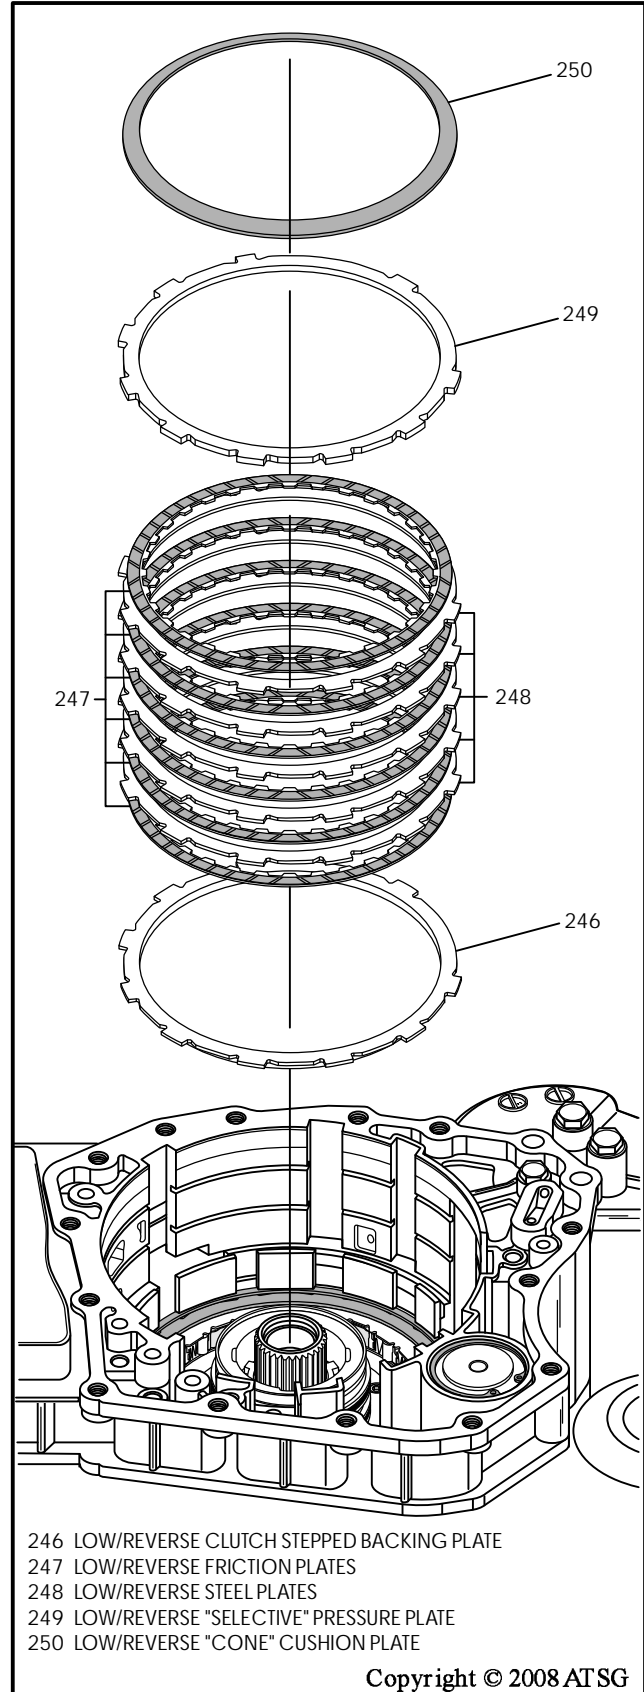

Figure 62
82. Remove low/reverse "cone" cushion plate, as shown in Figure 62.
83. Remove low/reverse clutch "selective" pressure plate, as shown in Figure 62.
84. Remove low/reverse clutch plates, as shown in Figure 62.
85. Remove low/reverse clutch "stepped" backing plate, as shown in Figure 62.